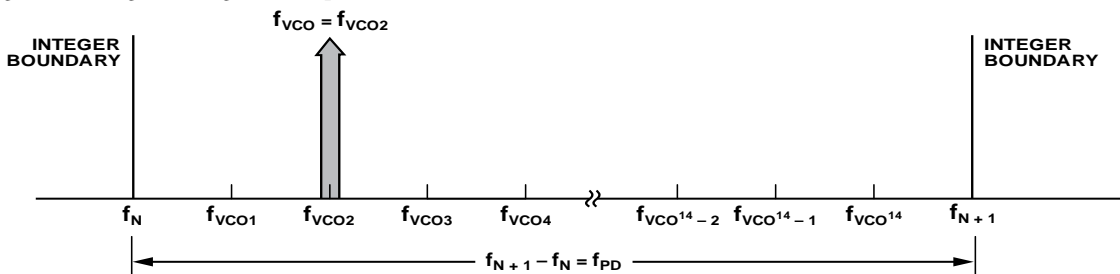

Figure 46. Exact Frequency Tuning
f_{VCOk} is the channel step frequency where $0 < k < 2^{14}-1$, as shown in Figure 46.
(the denominator or the modulus of the Δ - Σ modulator) so that the Δ - Σ modulator phase accumulator repeats at an exact period related to the interval frequency ($f_{VCOk} - f_{VCO(k-1)}$) in Figure 46. Consequently, the shortened accumulator results in more frequent repeating patterns and as a result often leads to spurious emissions at multiples of the repeating pattern period, or at harmonic frequencies of $f_{VCOk} - f_{VCO(k-1)}$. For example, in some applications, these intervals might represent the spacing between radio channels, with the spurious occurring at multiples of the channel spacing.
When multiple, equally spaced, exact frequency channels are needed that fall within the same interval (that is, $f_N \leq f_{VCOk} < f_{N+1}$) where f_{VCOk} is shown in Figure 46 and $1 \leq k \leq 2^{14}$, it is possible to maintain the same integer-N (Register 0x03) and exact frequency register (Register 0x0C) settings and only update the fractional register (Register 0x04) setting. The exact frequency channel mode is possible when Equation 16 is satisfied for at least two equally spaced adjacent frequency channels, that is, the channel step size.
To configure the **HMC832** for exact frequency channel mode, initially and only at the beginning, the integer (Register 0x03) and exact frequency (Register 0x0C) registers need to be programmed for the smallest f_{VCO} frequency (f_{VCO1} in Figure 46), as follows:
1. Calculate and program the integer register setting Register 0x03 = $N_{INT} = \text{floor}(f_{VCO1}/f_{PD})$, where f_{VCO1} is shown in Figure 46 and corresponds to the minimum channel VCO frequency. Then, the lower integer boundary frequency is given by $f_N = N_{INT} \times f_{PD}$.
where $f_N = \text{floor}(f_{VCO1}/f_{PD})$, and f_{VCO1} , as shown in Figure 46, represents the smallest channel VCO frequency that is greater than f_N .
4. To change from Channel 1 ($f_{VCO1} = 2800.2$ MHz) to Channel 2 ($f_{VCO2} = 2800.3$ MHz), only Register 0x04 needs to be programmed, as long as all of the desired exact frequencies, f_{VCOk} (Figure 46), fall between the same integer-N boundaries ($f_N < f_{VCOk} < f_{N+1}$). In that case,